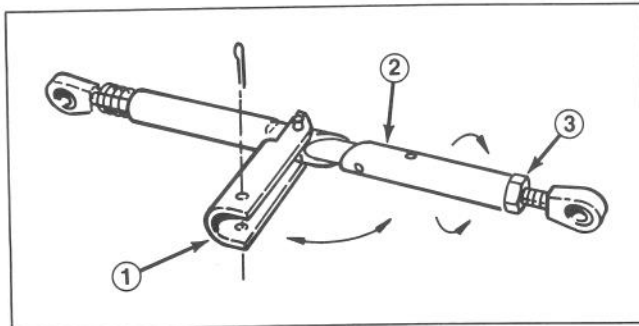

Figure 37
- A. Remove hair pin cotter and pivot belt tension rod handle outward (Fig. 37).